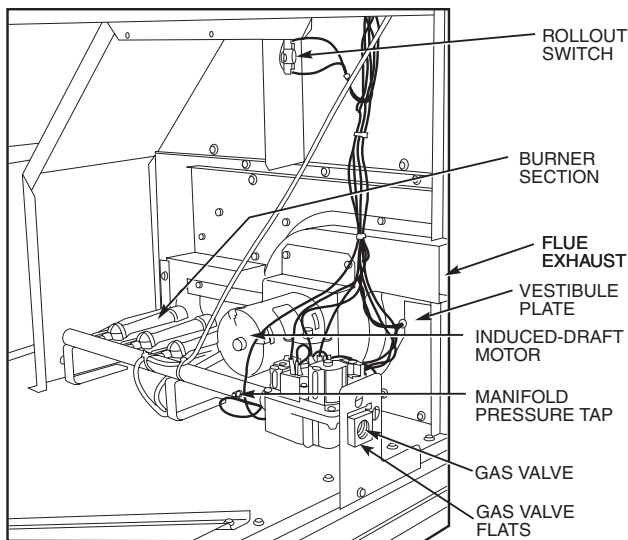

Fig. 49 — Burner Section Details
2. Remove the 6 screws that attach induced-draft motor housing to vestibule plate (Fig. 49).
A. Removal and Replacement of Gas Train (Fig. 49 and 50)
4. Disconnect gas piping at unit gas valve using backup wrench on the flats of the valve body where the gas pipe enters the gas valve. See Fig. 49.